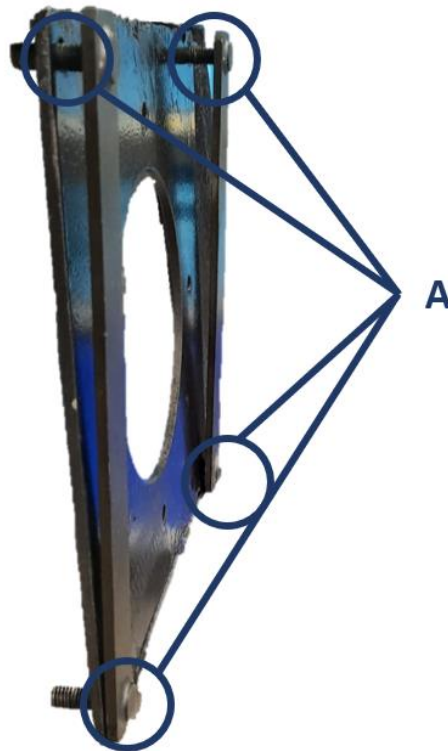

Figure 10: Inserting detector plate screws
- 3) Insert the detector plate screws into the screw holes, item A, Figure 10 as prepared in section 5.2.1 on page 40